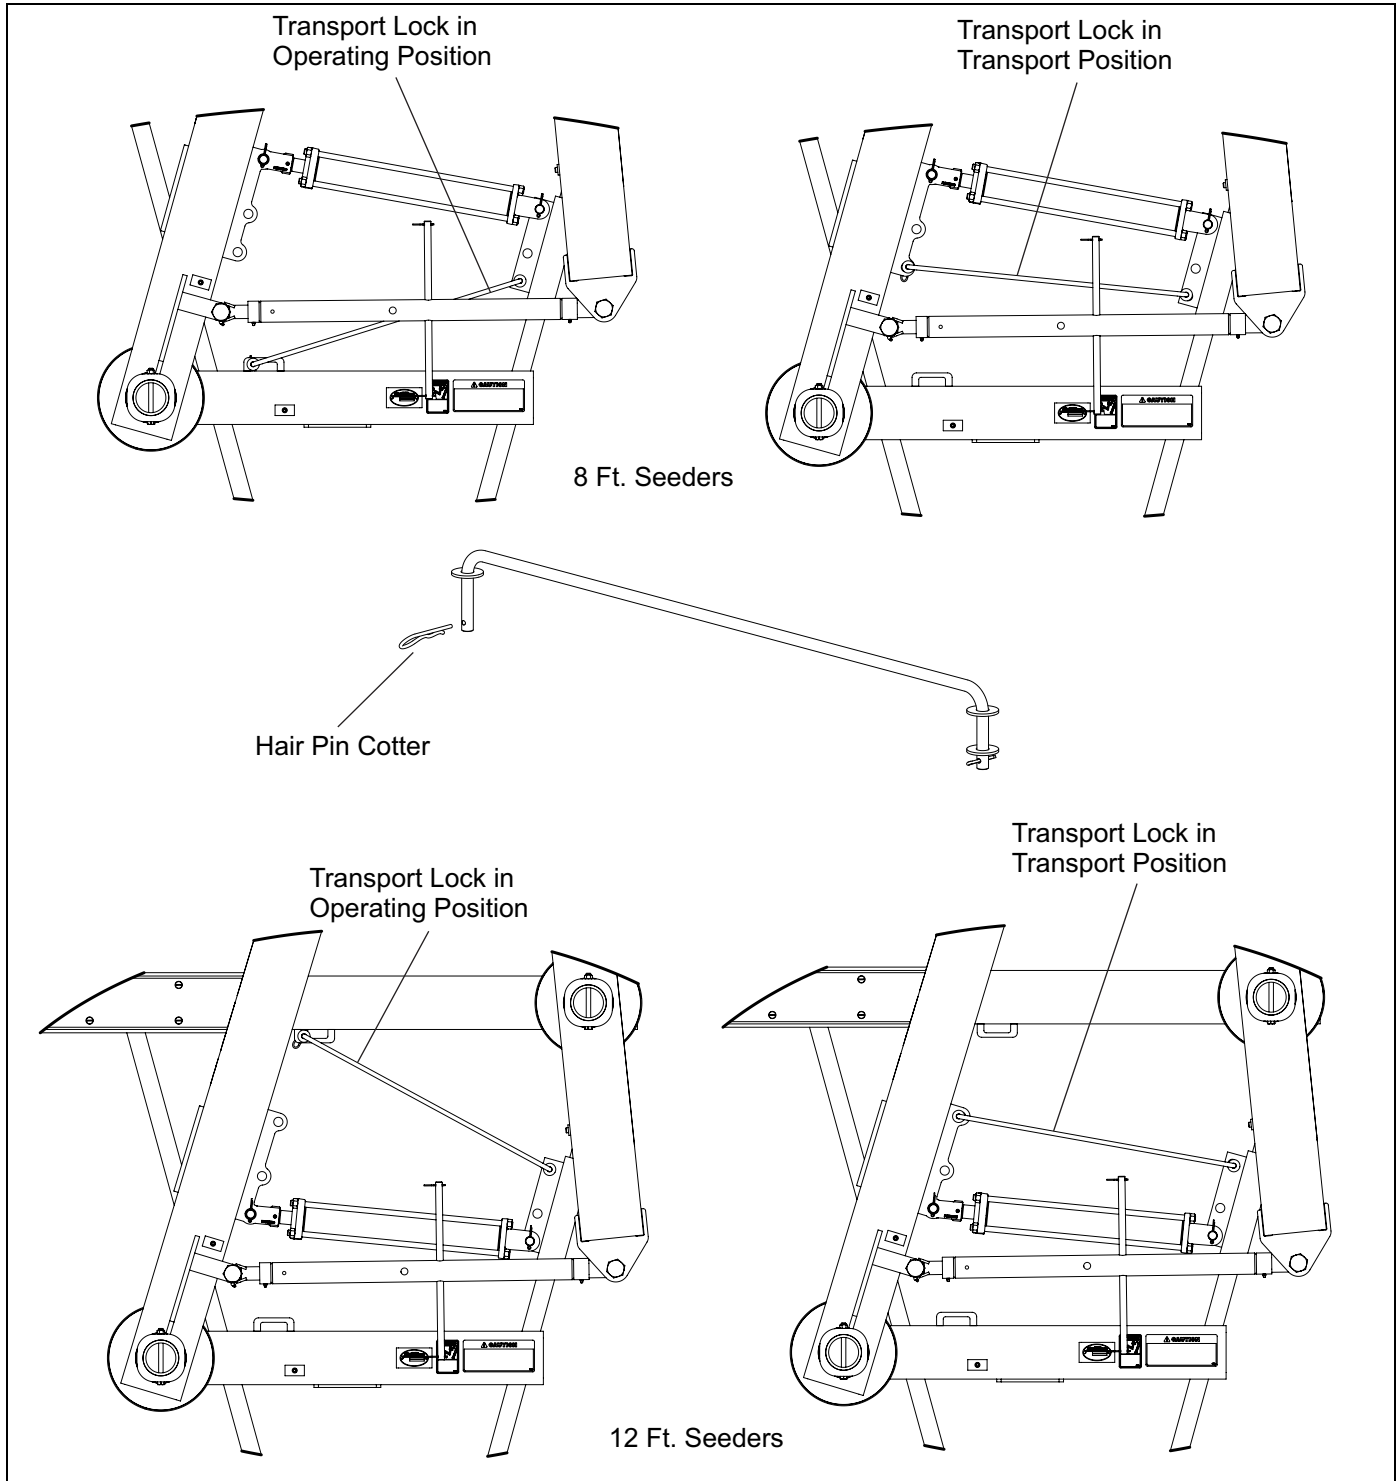

Figure 3-3: Transport Lock
- Retract the Hydraulic Cylinder to position the hitch into the Transport Position. Insert the Transport Lock into the correct set of holes prior to transport. See Figure 3-3.